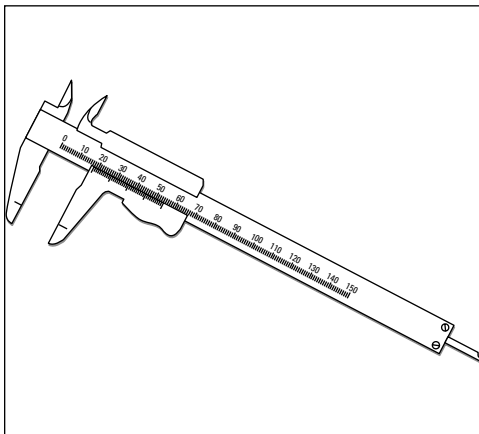

Figure 3-7:
- ✓ **Calipers:** Calipers, which allow you to measure paper thickness, are a very valuable addition to a paper engineer's toolbox (check out Figure 3-7). Most paper engineering tools are relatively cheap, but a good pair of calipers can be quite pricey. Ask for some calipers for your birthday. You can find calipers in most hardware stores and tool depots. See Chapter 2 for more on paper thickness.